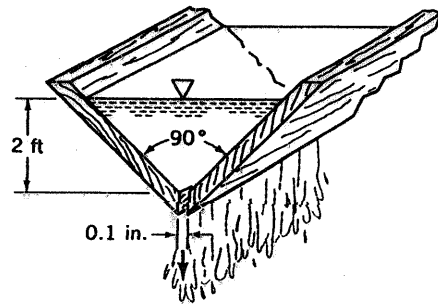

FIGURE P3.77
3.77 A long water trough of triangular cross section is formed from two planks as is shown in Fig. P3.77. A gap of 0.1 in. remains at the junction of the two planks. If the water depth initially was 2 ft, how long a time does it take for the water depth to reduce to 1 ft.?